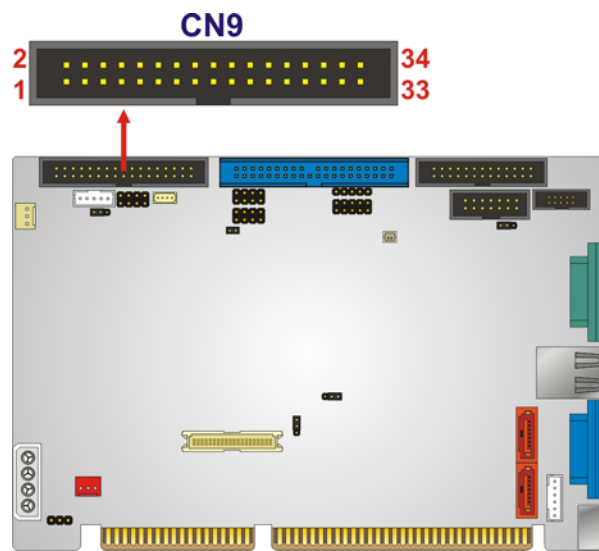

Figure 3-9: FDD Connector Location
- CN Location:** See Figure 3-9